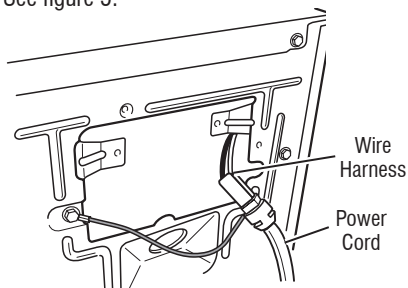
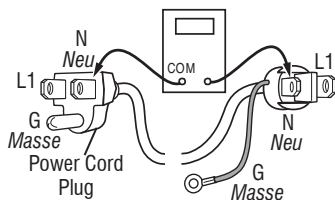

Figure 5 - Power cord-to-wire harness connection for gas dryer
Figure 6
3. Check that the power cord is firmly connected to the dryer's wire harness. See figure 5.
5. With an ohmmeter, check for continuity between the neutral (N) terminal of the plug and J8-3 (white wire) on the ACU. The left-hand side of figure 6 shows the position of the neutral terminal (N) on the power cord plug. Also see figure 2, page 11.
- If there is no continuity, disconnect the white wire of the main harness from the power cord at the location illustrated in figure 5. Test the continuity of the power cord neutral wire as illustrated in figure 6. If an open circuit is found, replace the power cord. Otherwise, go to step 6.
- If there is no continuity, check the continuity of the power cord in a similar way to that illustrated in figure 6, but for power cord's L1 wire.